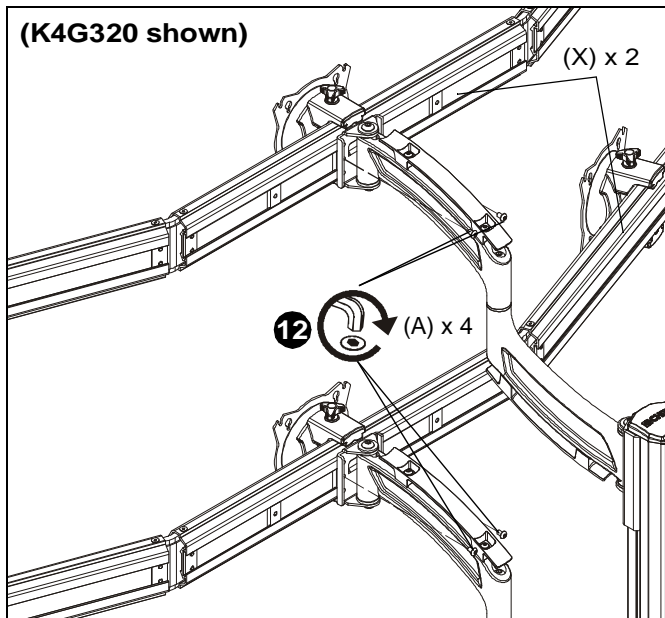

Figure 6
12. Use four #10-32 x 5/16" button head cap screws (A) to secure each column arm to arrays (X). (See Figure 6)